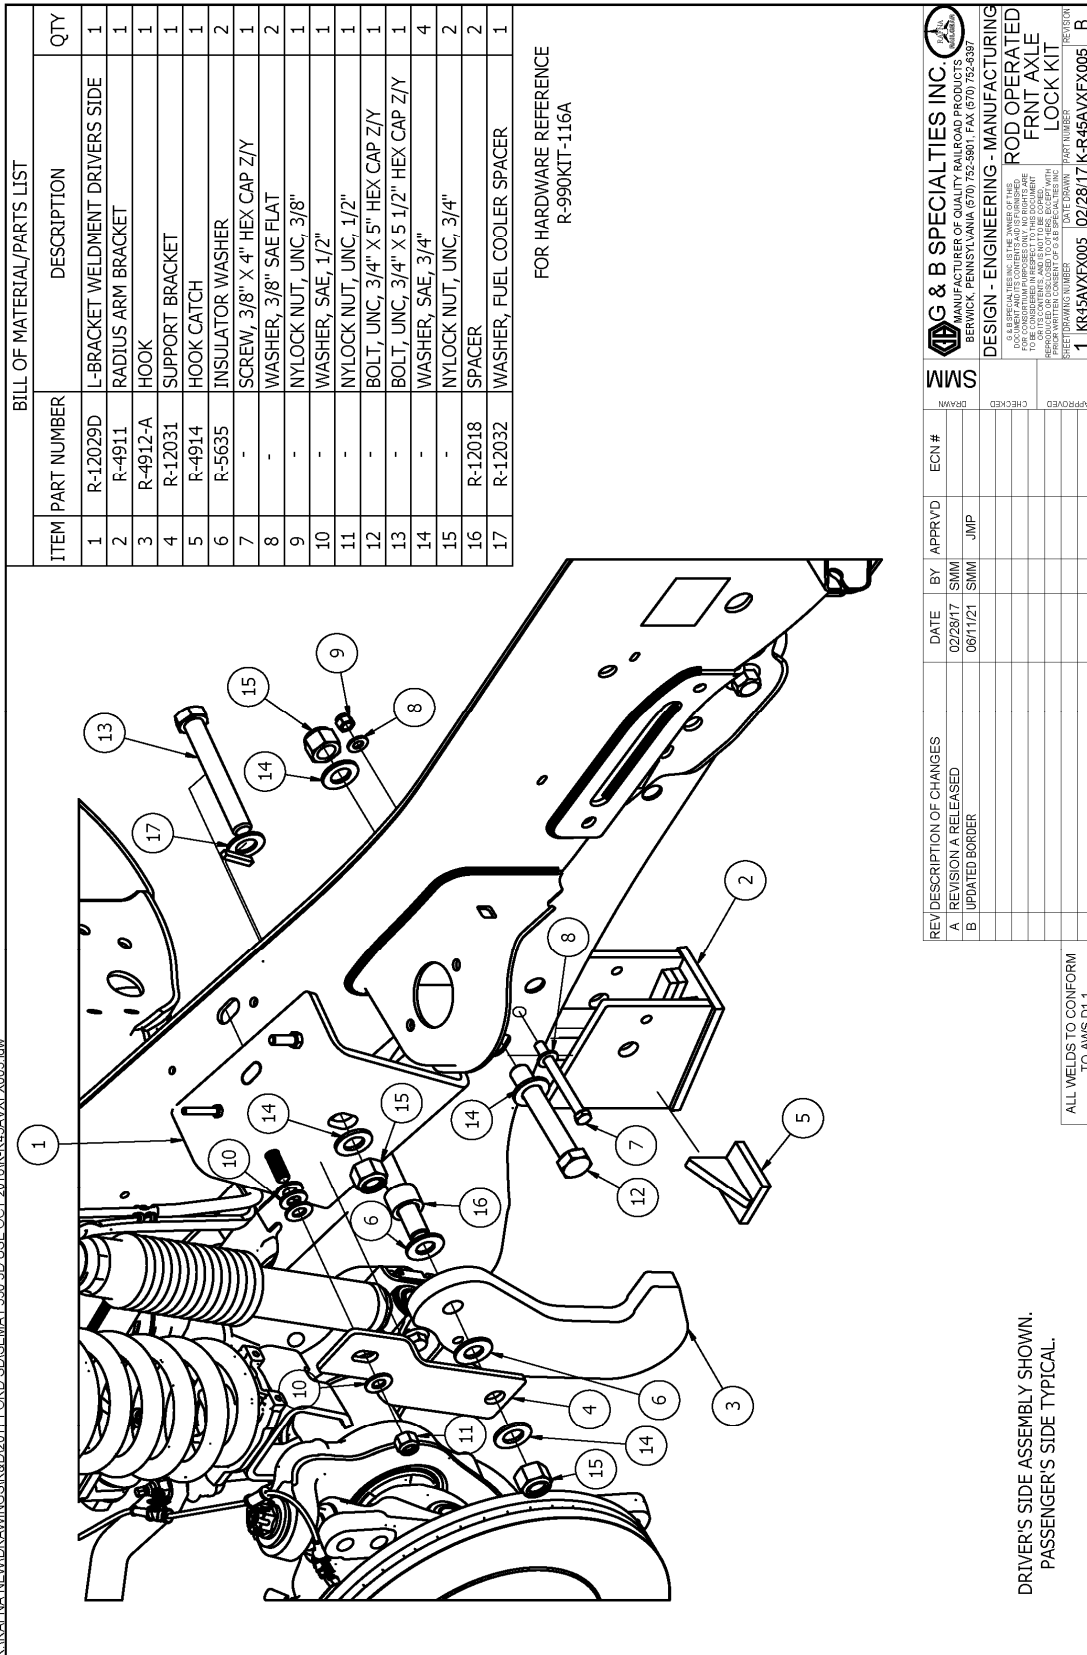

Figure 1
3. Find the slotted hole on top of the frame. Take bracket R-12029D (Driver's Side) and align the locating slug on the bracket with the slot in the frame. When done correctly, slug should drop into the slot on the frame and the bracket sit against the top and outer surfaces of the frame. See (Fig. 1).
4. With the bracket on the frame, center punch the slot on the bracket. Remove bracket and drill a 49/64" hole. Hole should line up with existing square hole where we removed the clip from earlier. Check with supplied 3/4" bolt to ensure bolt sits parallel and is not angled. Hole may need to be reamed to ensure this. The hole on the outside of the frame can also be obtained by drilling the square hole on the inside of the frame through to the outside. The bracket is slotted for this reason. Just ensure bolt sits straight and not on an angle. Once hole is in place and bolt sits parallel, re-install fuel cooler leaving out the clip we removed. Install bracket to frame, using R-12032 and 3/4" hardware as show in Fig. 1 & 2. See Fig. 8 for proper install reference. (Passenger side will need the hole drilled through to the inside of the frame. There are no holes present on the passenger side.)
5. On the radius arm you will see a slotted hole with a hole next to it. Take R-4911 and place it on the radius arm with the larger hole in the bracket aligned with the slot, positioned closest to the hole side of the slot. See (Fig.6) Place 3/4" bolt that was supplied through the bracket and radius arm to help hold the bracket, and with the bracket against the bottom of the radius arm, mark the center of the small hole of the bracket on frame. You may also mark the center of the hole on the inside of the frame. Drill a 13/32" hole through the radius arm, or on the inside and outside where marked. With hole drilled, install bracket using the 3/4" and 3/8" hardware supplied in kit. See (Fig.1 & 3) for reference. Ensure not to over-tighten bolts and deform the radius arm.